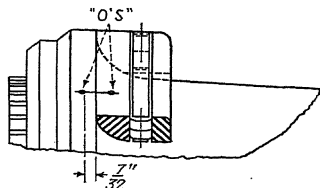

FIG. 13.—Aligning inner thrust race and blade shoulder.
15. Align the etched "O" on the inner thrust race with the stamped "O" on the blade shoulder (Fig. 13).
14. Check to be sure that the inner thrust race is assembled in the marked position. An O is etched on the race and stamped on the blade (see Fig. 13).